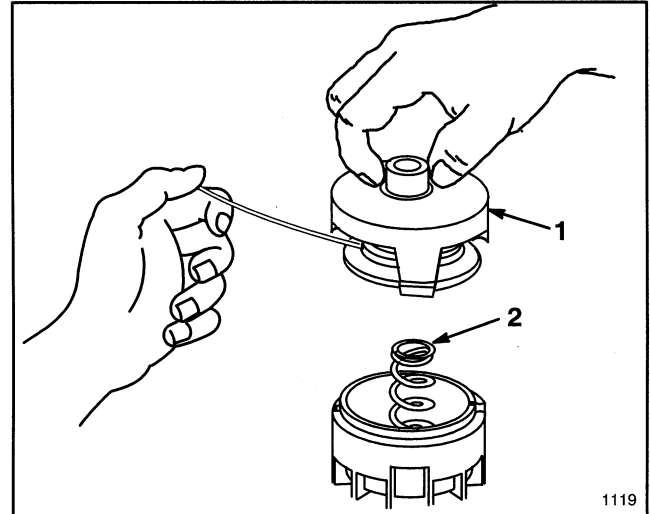

Figure 20
3. If there is any line on spool, hold free end of line with one hand to prevent spool from unraveling and with other hand grasp spool and lift off spool and cap together (Fig. 20).